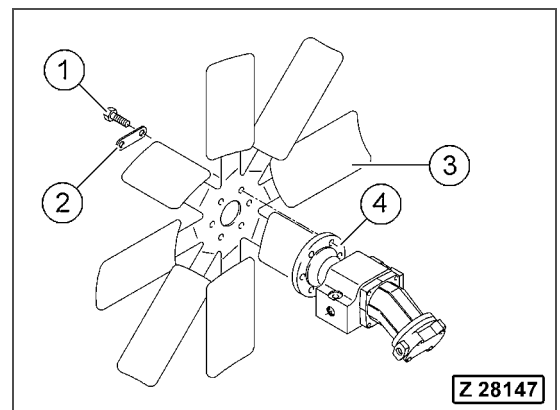

Fig. 3-52
5. Remove the attaching bolts (Fig. 3-52, Pos. 1) with the locking plates (Fig. 3-52, Pos. 2). Discard the locking plates.
6. Remove the cooler fan (Fig. 3-52, Pos. 3) from the drive shaft (Fig. 3-52, Pos. 4).